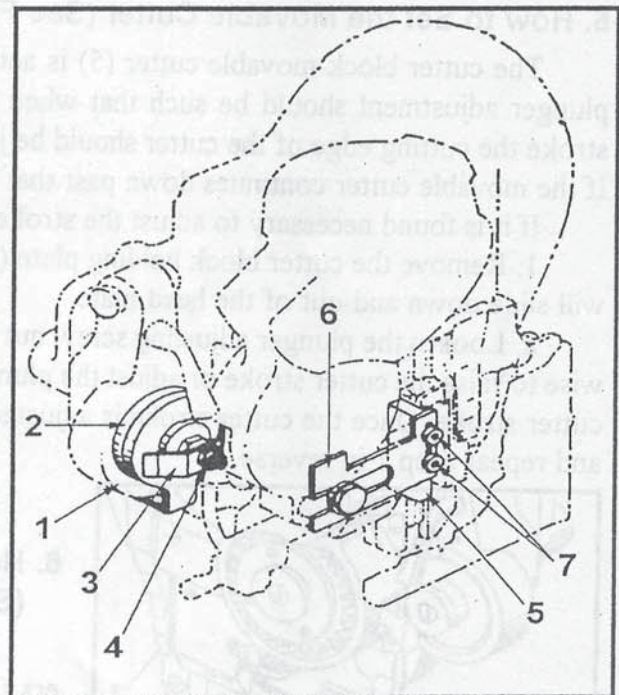

Figure 11-Wire Feed brake Tension and Wire Guide Adjustments (Long Draw Heads)
8. How to Adjust the Wire Feed Brake Tension (See Figure 11)
9. How to Adjust the Wire Guide (See Figure 11)